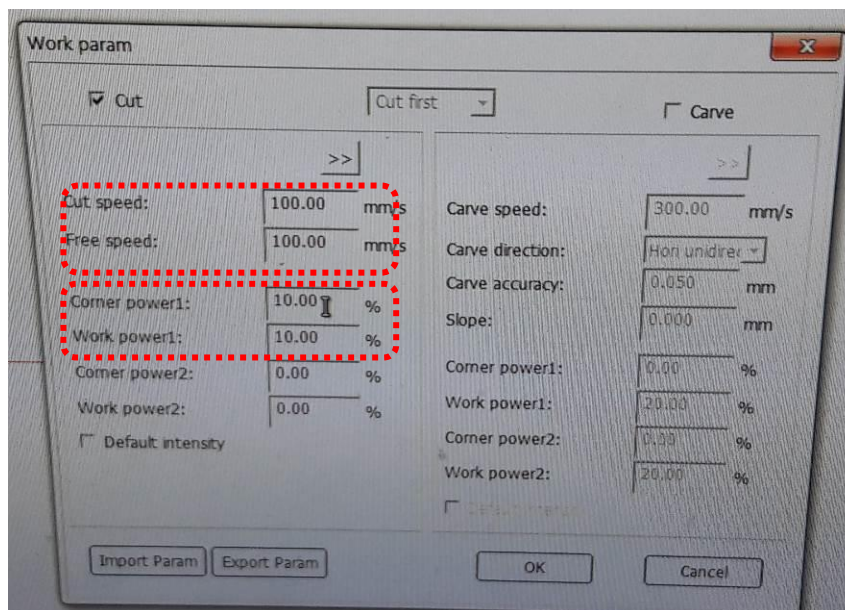

Figure 4 Work param window
- 6. Setup “Cut speed” and “Free speed”. ( Figure 4 )
- 7. Setup “Work power1” and “Corner power1”. ( Figure 4 )